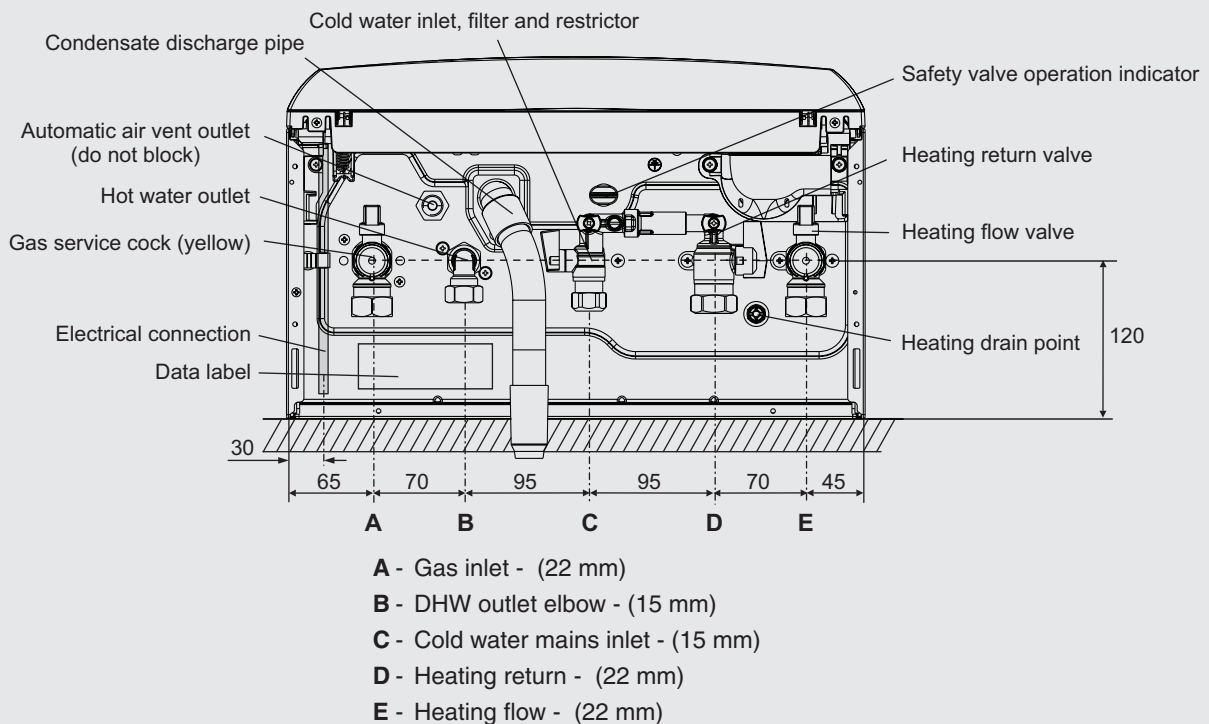

Fig. 5.4
5.5 CONNECT THE PIPEWORK - Fig. 5.4
2. Fit the valves to the boiler connections as shown in Fig. 5.4 - note the colours of the operating levers.
4. Connect the flexible condensate pipe to the rubber connector as shown in Fig. 5.4. Using the adaptor supplied, connect the flexible pipe to the condensate drain. Ensure that the condensate discharge pipe is as required in Section 4.9.